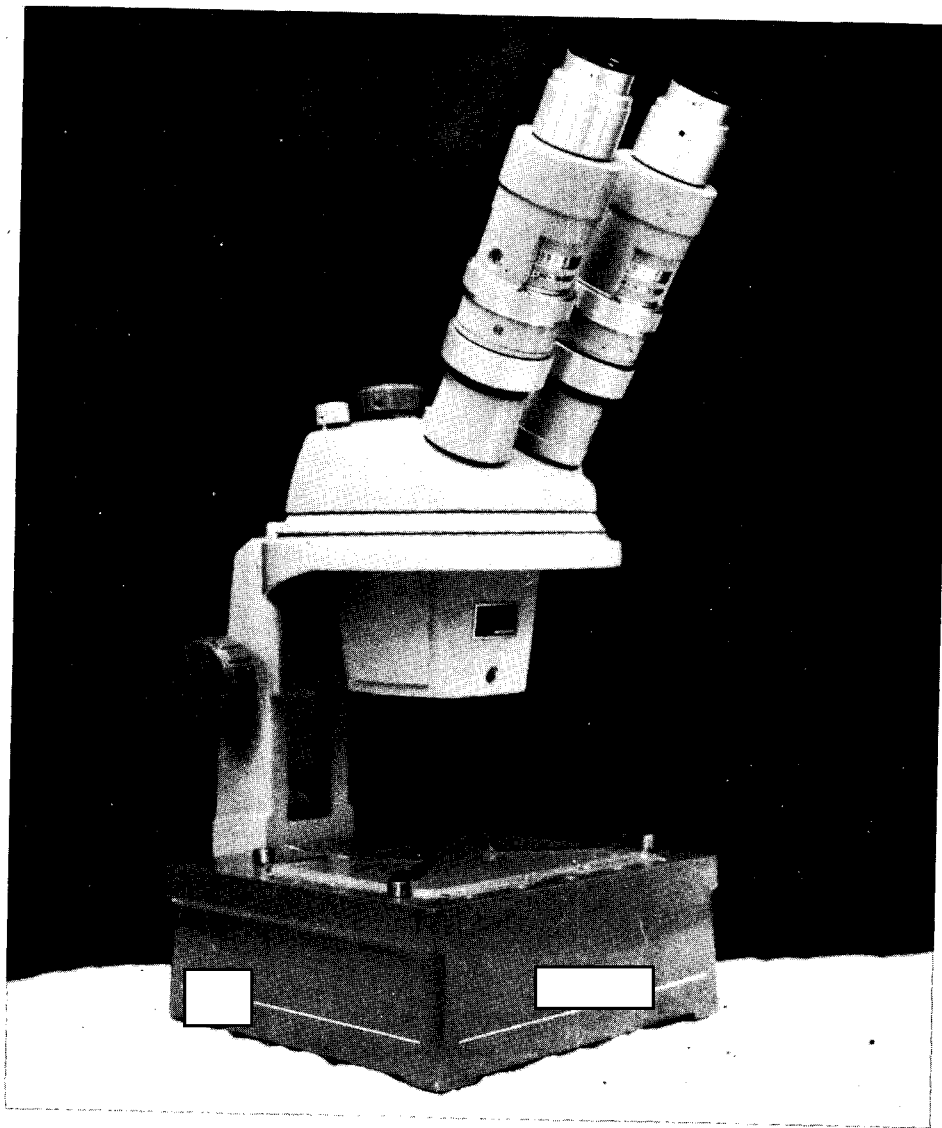

FIGURE 3
- 3.6 Only minor refocusing should now be necessary. A major refocusing requirement indicates that one or both eyepieces are not properly seated. If so, return to step 3.3. The eyepiece focus match may be trimmed up by using the focusing sleeve on the left eyepiece. (see figure 3).